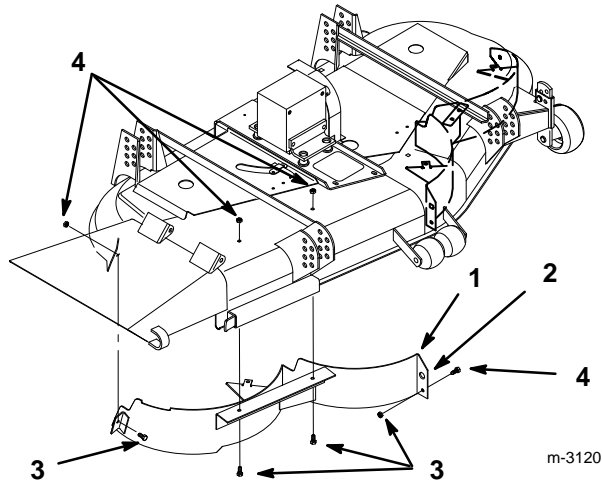

Figure 8
2. Remove lock nuts from top and discharge side and center flange of mower (Fig. 8). Slide baffle into discharge opening and raise into mower so pin on center flange engages left baffle.
3. Secure with previously removed 5/16"–5/8" (16 mm) bolts and 5/16" locknuts in top, discharge side and center flange holes of baffle (Fig. 8).